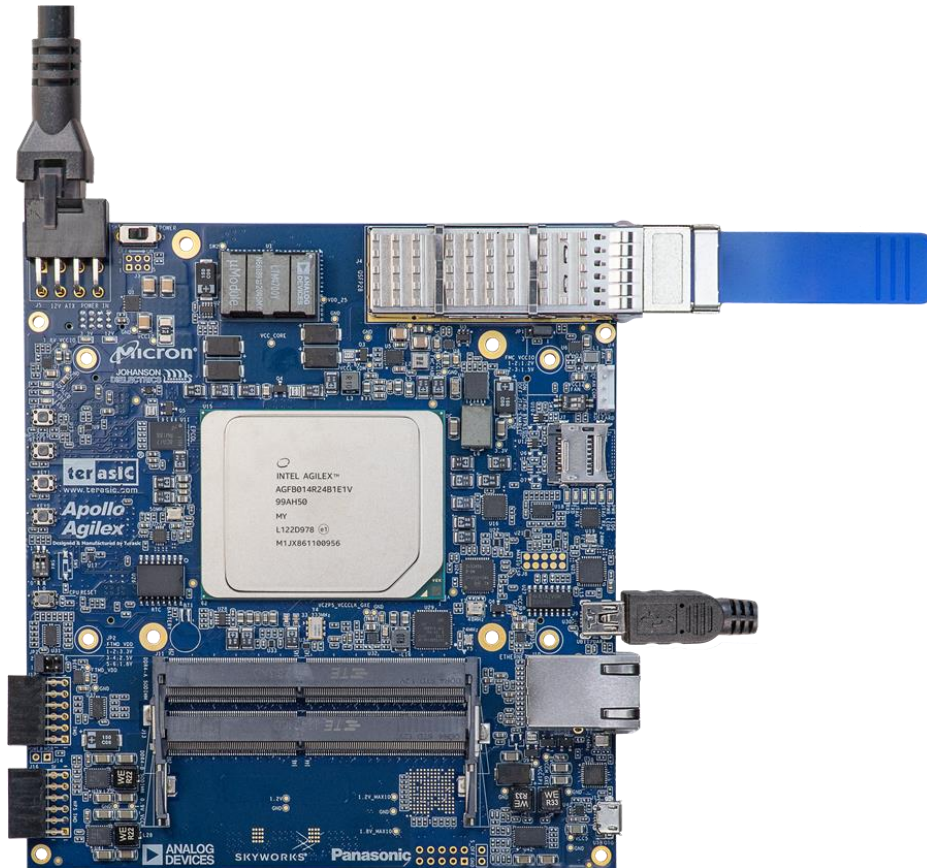

Figure 4-2 Test code setup
Figure 4-2 shows the FPGA board with four QSFP28 loopback module installed..
4. Plug-in the QSFP28 loopback module on the QSFP28 connector of the Apollo Agilex board as shown in **Figure 4-2**.